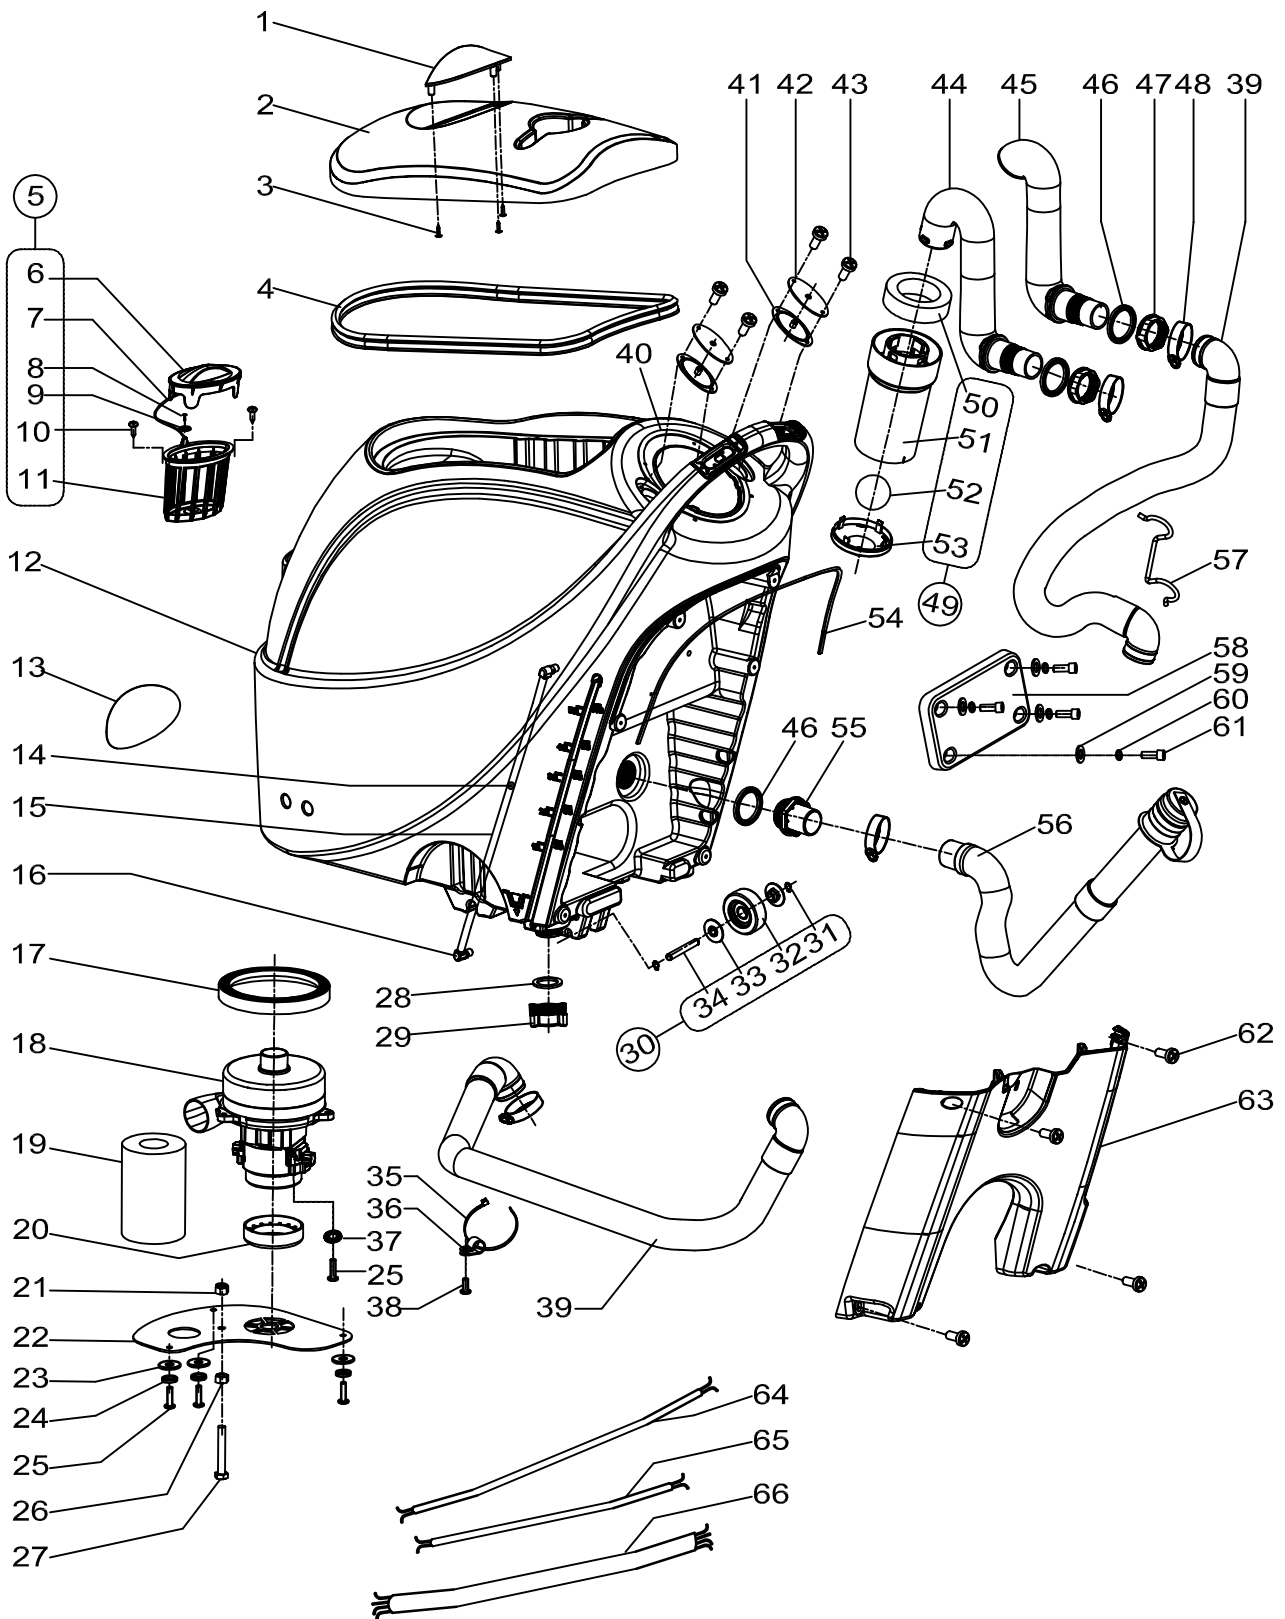

**Figure 12**
3. Press the power switch (38) to the “O” position to turn off the machine.
4. Turn off the draining ball valve (A, Figure 12) (located at the bottom of the machine, behind the wheels). Position B ball valve open, and position C ball valve closed.
5. Remove the transparent cap (D), and then take off the filter (E), and install them onto the filter box (F) after cleaning.